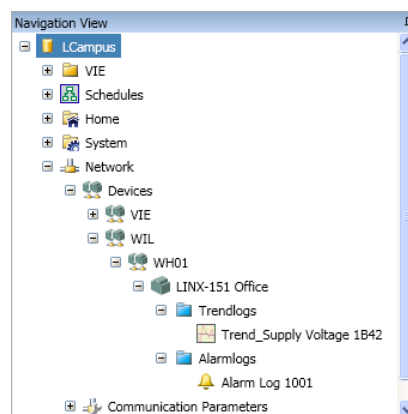

Figure 66: Device Trend and Alarm Logs
4. The new device is displayed in the navigation view. After the first data has been received via e-mail, the trend logs and alarm logs will be displayed in the corresponding folders (see Figure 66).